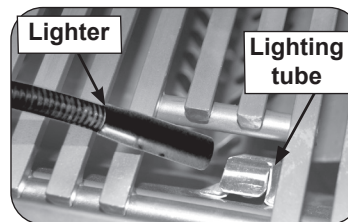
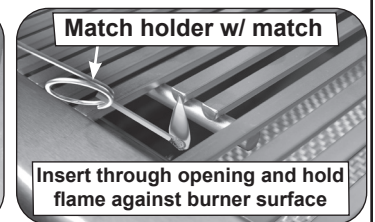

Fig. 33-2 Manual lighting via lighting tube
Fig. 33-3 Manual lighting via match holder
2. Insert either a burning long-barrel butane lighter or a burning long-stem match through the cooking grid opening to the top of the lighting tube (see Fig. 33-2). For backburners or infrared burners, hold the flame against the surface of the backburner/infrared burner. For side burners, hold the flame against the burner. Grills equipped with an infrared burner include a wire extension match holder (attached to drip tray) to assist with manual lighting (see Fig. 33-3).
4. If the burner does not light within five (5) seconds of turning the control knob, **immediately depress the knob and turn the valve to OFF**. **WAIT FIVE (5) MINUTES** before repeating steps 2 through 4 of the **MANUAL LIGHTING** instructions.